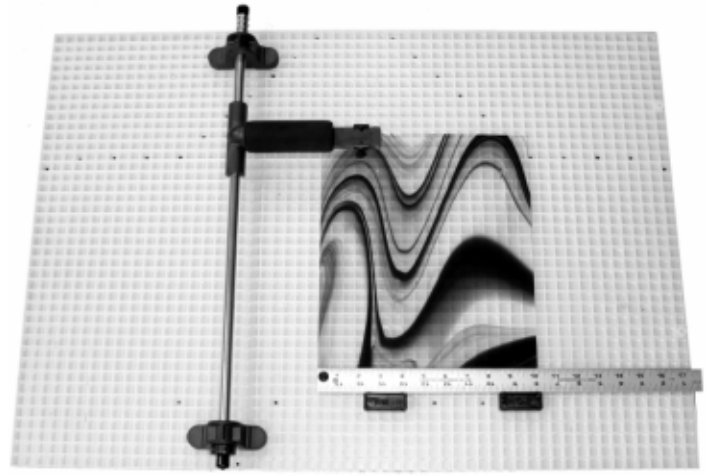

figure 2
2. Place the StripPro on the two black bushings of the slide bar. Note that the StripPro does not snap onto the bushings, it just rests on them. The StripPro will also work if you just set it on the slide bar without placing it on the black bushings. *see figure 2*
3. Plug the ruler into the Morton Surface with the RED thumb screw positioned on the left side of the ruler. The ruler itself, may be positioned on the right OR left side of the slide bar. *see figure 2*
4. Position one of the grid adapters adjacent to the ruler on the right hand side to stabilize the ruler. The ruler should be at a 90⁰ angle to the slide bar. Micro-adjusting may be made by loosening the thumb screw on the ruler and shifting the ruler up or down or by turning the grid adapter 180⁰. *see figure 2*